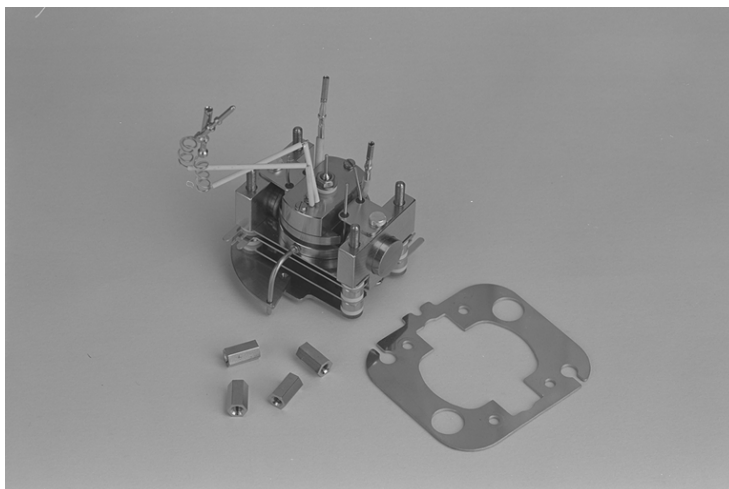

Figure 4-10. Mounting plate removed from body (EI source)
4. Remove the four hex nuts and remove the mounting plate (see Figure 4-10).